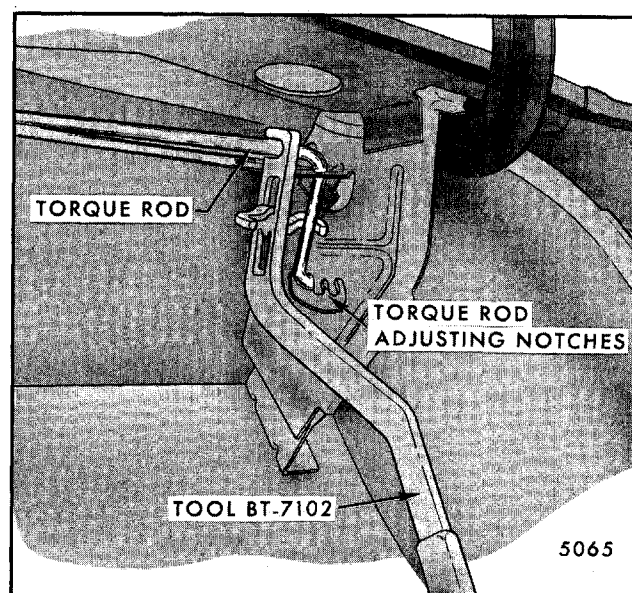

Fig. 7-46-Rear Compartment Torque Rod Adjustment - Oldsmobile E Styles
- c. On Oldsmobile E styles, use tool BT-7102 or equivalent (Fig. 7-46).